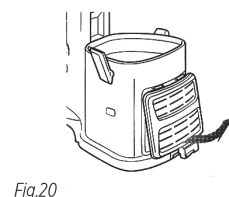

Fig.20
- 1 Remove the filter cover from the front of the vacuum by pulling up on the tab and pulling the cover away from the vacuum. (Fig. 20 )